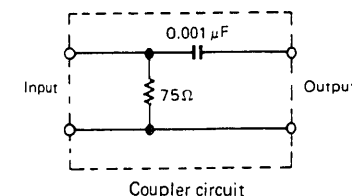

Fig. 36
- 1) Connect the sweep generator (40 ~ 50 MHz) to the TP terminal of the IF pack via the coupler circuit shown in Fig. 36.